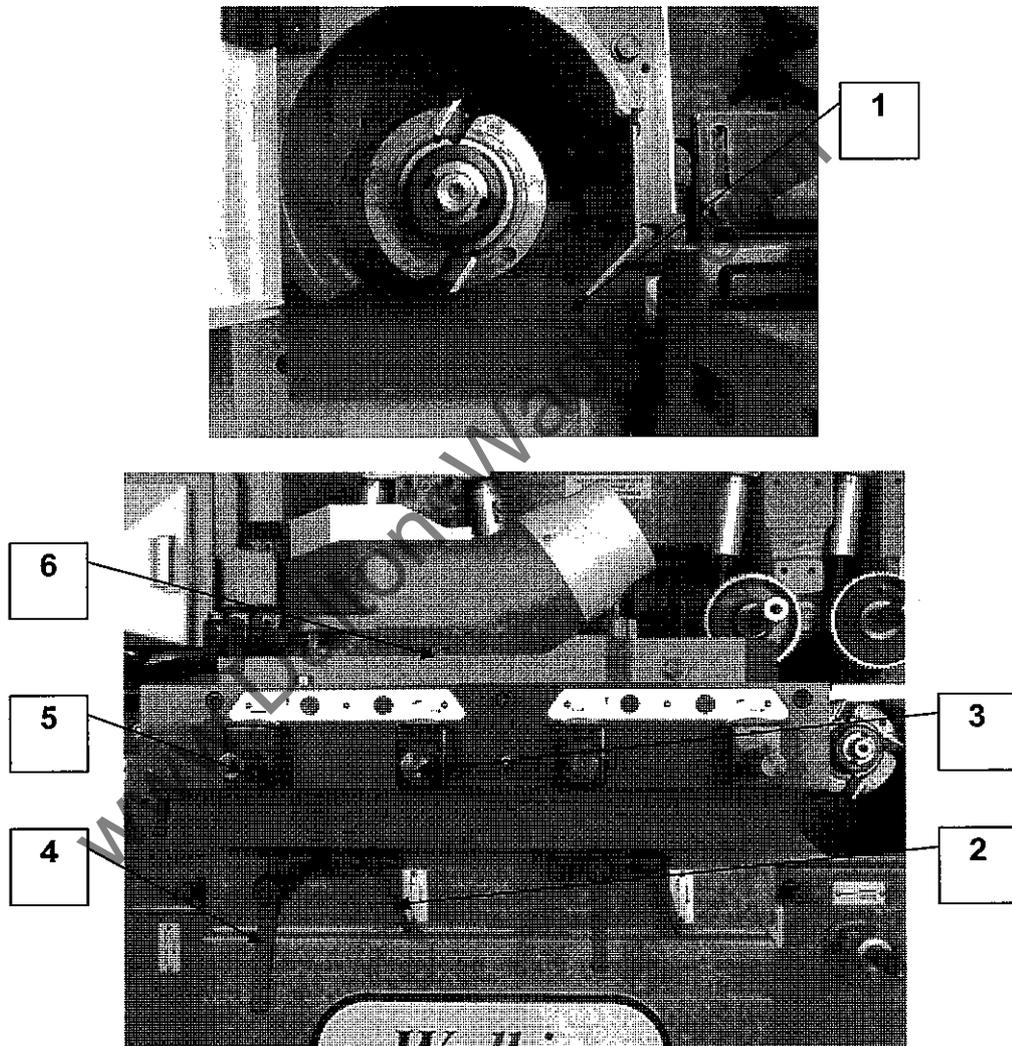

Figure 5.4
- 12 Lock handle (2) and clamp (6).
5.4 Setting Near Side Head (Figure 5.4)